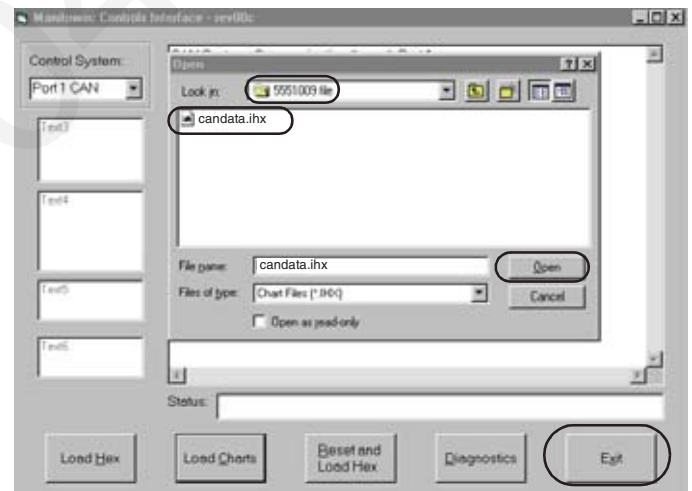

FIGURE 28
12. Select and click on **candata.ihx** icon to select file (see Figure 28). Click on **Open** button to open file. Rated capacity charts will now begin to load.
14. When screen changes to indicate a **Status** bar that programming is finished (Load Data in Address and Close File), the charts will be fully loaded into the crane's CAN bus system. Click **Exit** button on control interface screen (see Figure 28) and disconnect download cable.